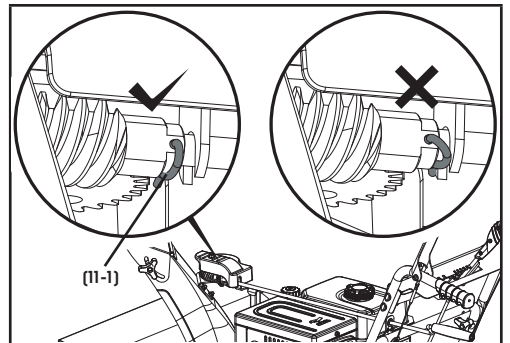

Figure 11B
3. Align the lever and the gear, and then connect the R pin (11-1). (Fig. 11B)
Ensure the R pin is positioned as shown in Fig. 11B.